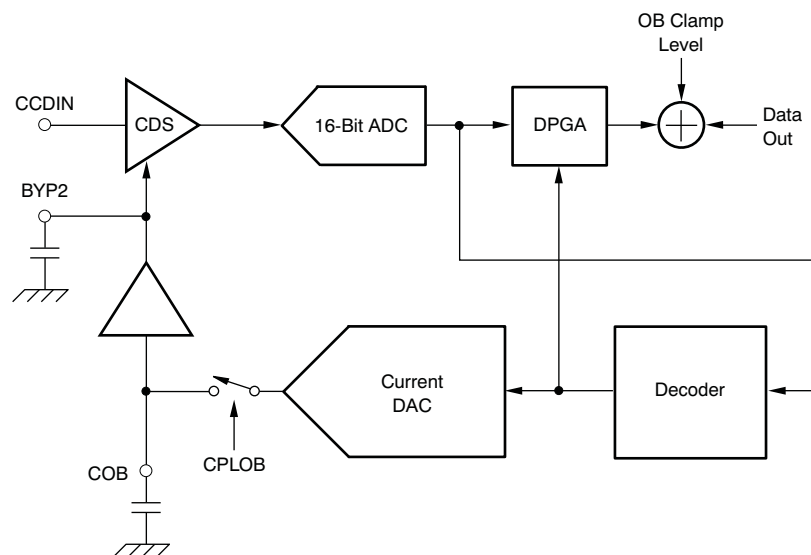

Figure 20. OB Loop and OB Clamp Level
This device has a built-in OB offset self-calibration circuit (OB loop) that compensates the OB level by using optical black (OB) pixels output from the CCD image sensor. A block diagram of the OB loop and OB clamp circuit is shown in Figure 20.